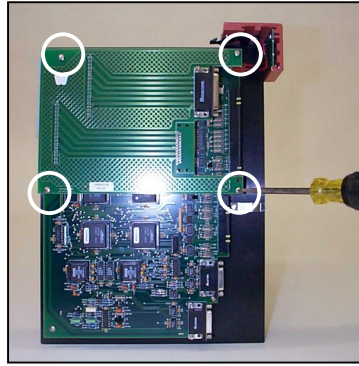

Figure 4. Removing Connector Board
4. **Remove circuit board.** Remove the four screws and standoffs on the perimeter of the 70005272 circuit board using a flathead screwdriver. (See Figure 4) Save these screws -- you will need them later. Remove the 70005272 board from the 70005190 board.
7. **Reassemble Module.** Mount circuit board 70005272 back onto board 70005190, with both the logo and the 25-pin DB connector facing up. (See Figure 4) Find the row of interconnect pins on the bottom of board 70005272 and insert them into the orange J6 connector located on board 70005190. Finally, replace the four standoffs and screws between the two boards at the four corners of board 70005190.